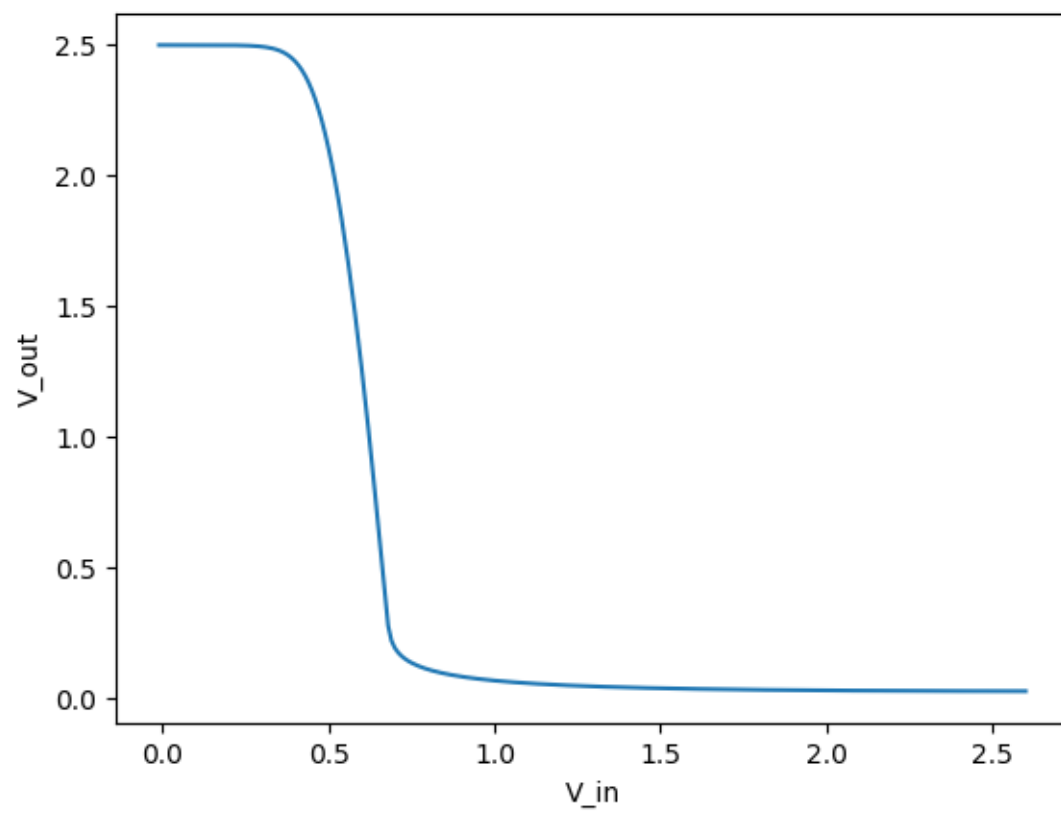

Figure 9: VTC
- Please refer Figure 9 for the plot of VTC.